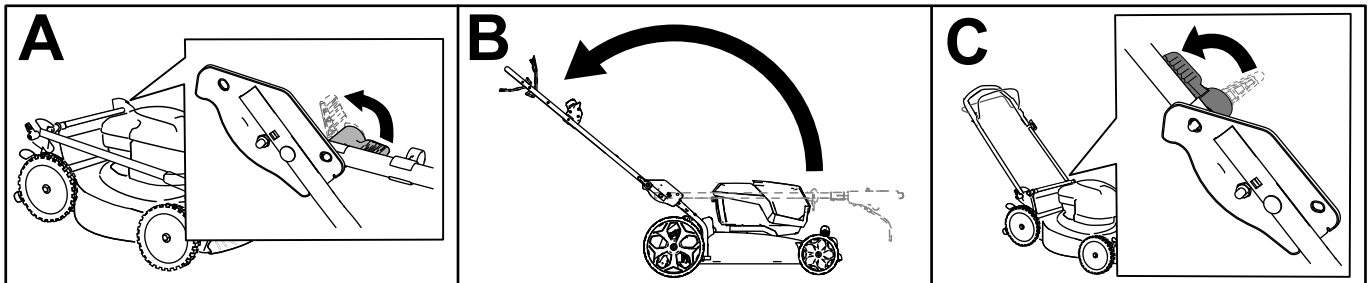

Figure 5
1. Unlock the handle locks (A of Figure 5).
2. Move the handle rearward to the operating position (B of Figure 5).
4. Engage the handle lock until the pin clicks in place to lock the handle into the operating position (C of Figure 5).